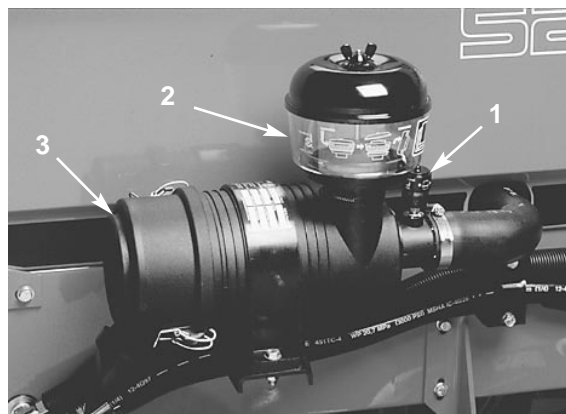

Figure 37
2. Service the air cleaner filters whenever the air cleaner indicator (Fig. 37) shows red, or every 400 hours (more frequently in extreme dusty or dirty conditions). Do not over service air filter.
**SERVICING THE PRECLEANER BOWL (Fig. 37)**
**SERVICING THE AIR CLEANER (Fig. 37)**